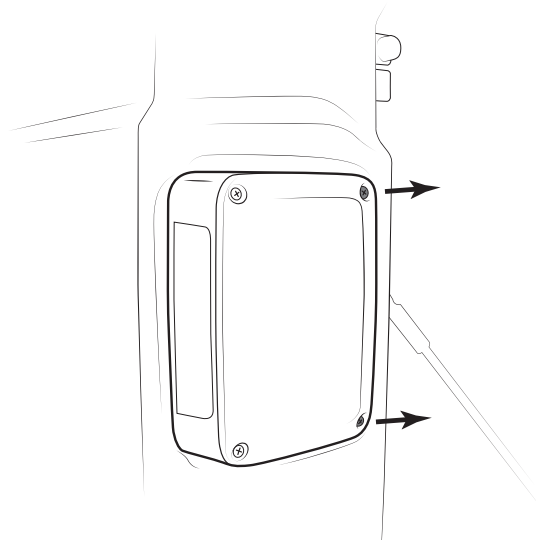

Figure 1
1. Remove two (2) Phillips head screws from inner-side of tail light (fig. 1).